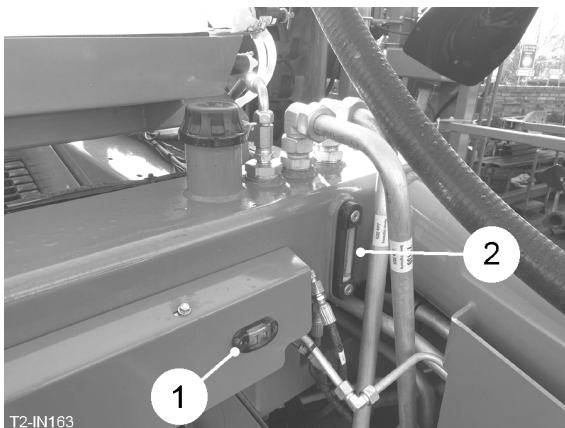

Fig 35
Some of the return oil from circuits 4 and 5 returns to tank through the oil cooler (item 1, fig. 32). The electric powered fan is thermostatically switched to operate when the oil reaches 60°C. The LED (item 1, fig. 35) will illuminate when the fan is running.
The hydraulic oil should be carefully monitored. The cold oil level should be kept within the sight gauge (item 2, fig. 35). Maintain the level by topping up or refilling with HM46 Hydraulic Oil. The reservoir holds approximately 410 litres. Should a high water content becomes apparent or a cloudiness in the oil, the hydraulic oil should be changed.